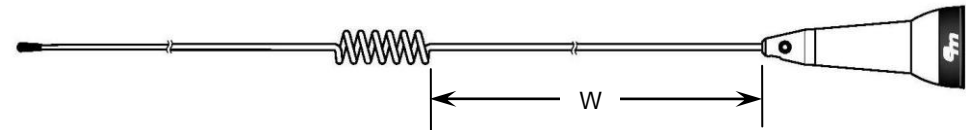

Figure 4
2. **NOTE:** Ensure the whip is located and completely seated inside the antenna whip adapter. The Tuned Length "W" is determined by measuring the distance between the top of the antenna adapter-spring and the bottom of the antenna phasing coil as shown in **Figure 4**. With the whip removed from the adapter, the cut length dimension will be approximately 1" (25mm) longer than the Tuned Length "W".
5. Cut the antenna whip as required to establish the specified Tuned Length "W" as shown in Figure 4.